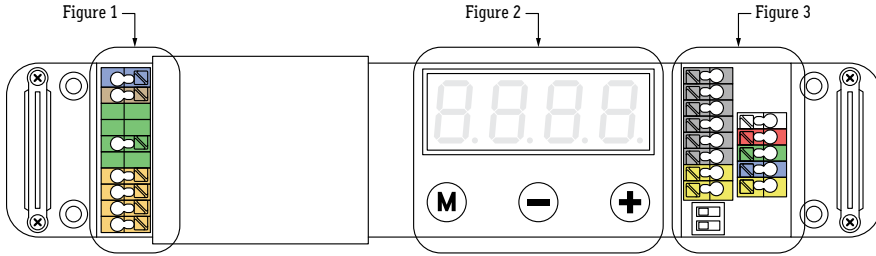

FIGURE 1 (INPUT)
- Do not cover LED Lightstrip with any material, as it may cause LEDs to overheat, melt, or ignite. (Fig. 1)